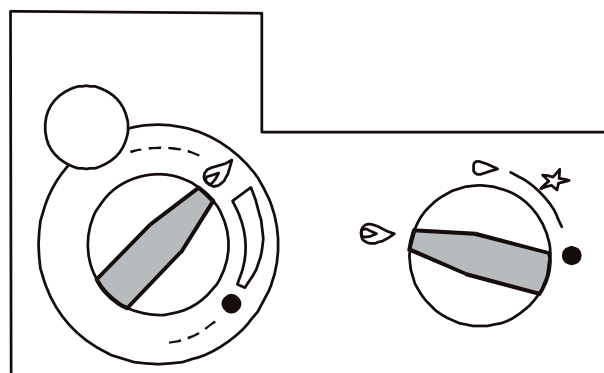

Figure 10 - Main Burner operational & Maximum Gas Rate
4. Turn the GAS RATE ADJUSTING KNOB fully anticlockwise (until you reach the stop position) i.e. the maximum gas rate. See **Figure 10**.